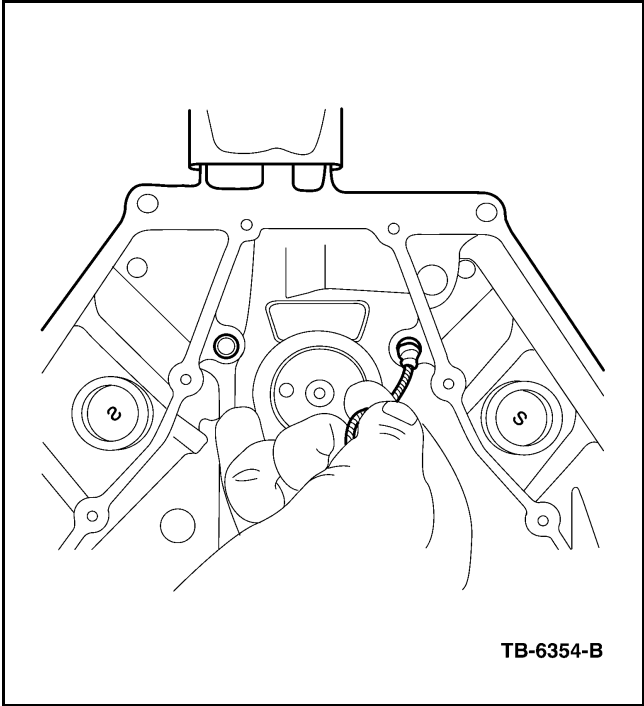

Figure 2 - Article 03-21-43
5. Inspect the block to determine which oil gallery plug is missing. The cup plug bore needs to be free of oil and old sealant from previous plug installation (Figure 2).